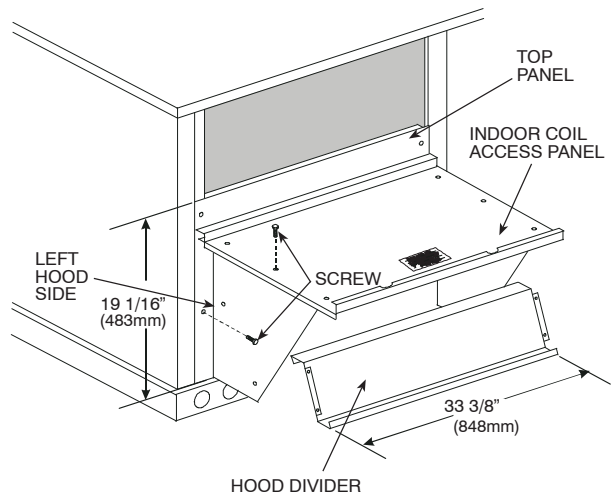
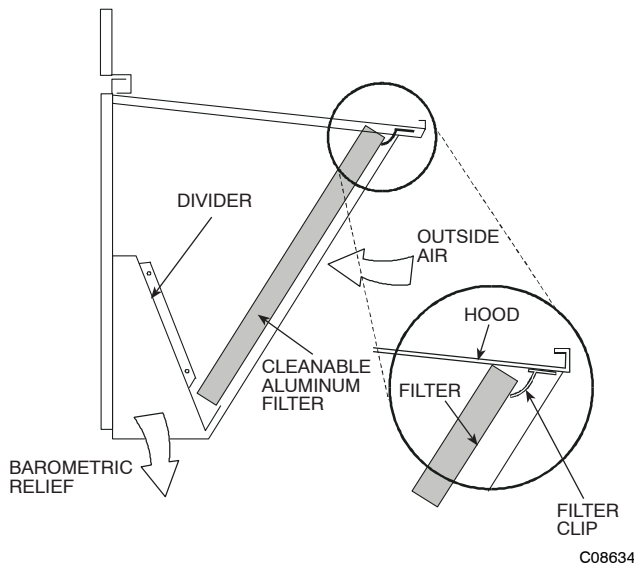

Fig. 11 - Economizer Hood Construction
Fig. 12 - Economizer Filter Installation
2. Swing out indoor coil access panel and insert the hood sides under the panel (hood top). Use the screws provided to attach the hood sides to the hood top. Use screws provided to attach the hood sides to the unit. See Fig. 11.
4. Insert the hood divider between the hood sides. See Fig. 11 and Fig. 12. Secure hood divider with 2 screws on each hood side. The hood divider is also used as the bottom filter rack for the aluminum filter.
- Open the filter clips which are located underneath the hood top. Insert the aluminum filter into the bottom filter rack (hood divider). Push the filter into position past the open filter clips. Close the filter clips to lock the filter into place. See Fig. 12.